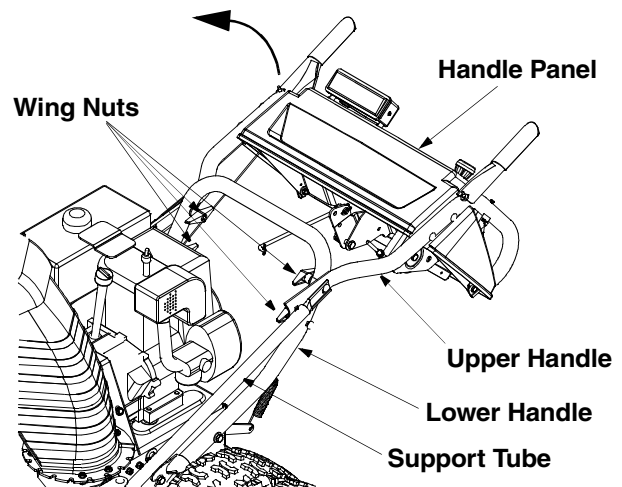

Figure 3
- Raise the upper handle assembly in the direction shown in Figure 3. Make sure that the upper handle locks into position over the lower handle.
- Secure the upper handle and lower handle with the two plastic wing nuts, cupped washers and carriage bolts previously removed. Attach these hardware on the lower hole in the handles. See Figure 3.